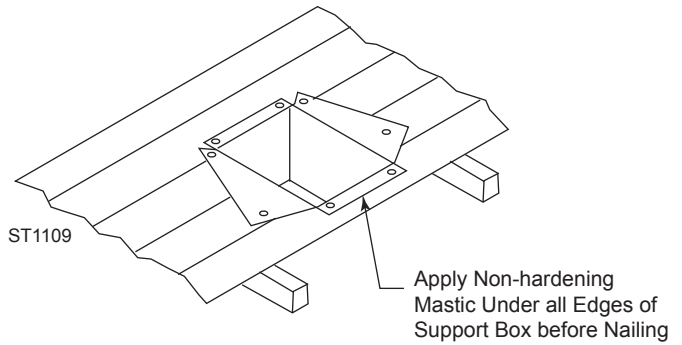

Figure 22 - Installed Cathedral Ceiling Support Box
4. Using tin snips, cut the support box from the top corners down to the roofline and fold the resulting flaps over the roof sheathing. *Figure 22*. Apply a bead of non-hardening mastic around the top edges of the support box to make a seal between the box and the roof. Nail in place with roofing nails. Remove any combustible material that might be inside the support box.